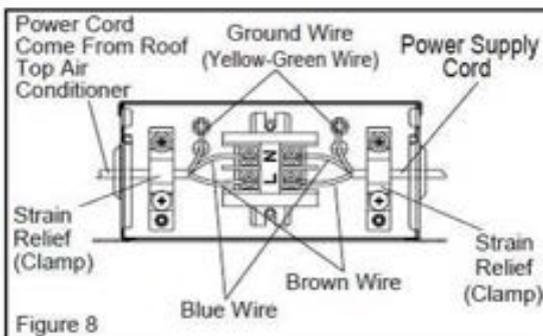

Figure 8
4. Connect the power cord to the brown, blue and ground wires found in the junction box with a terminal board. CAUTION Connect brown wire to brown wire, blue wire to blue wire and the ground wire to earth. (see Figure 8).
3. Connect the docking terminals of indoor unit and outdoor unit, see Figure 8.